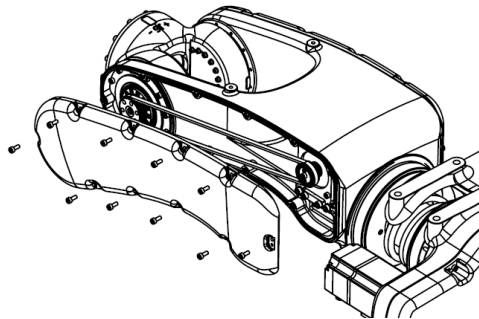

Figure 12-6 Diagram of removing J6 cover plate
Step5. Remove the J6 cover plate and 10 screws, as shown in Figure 12-6.